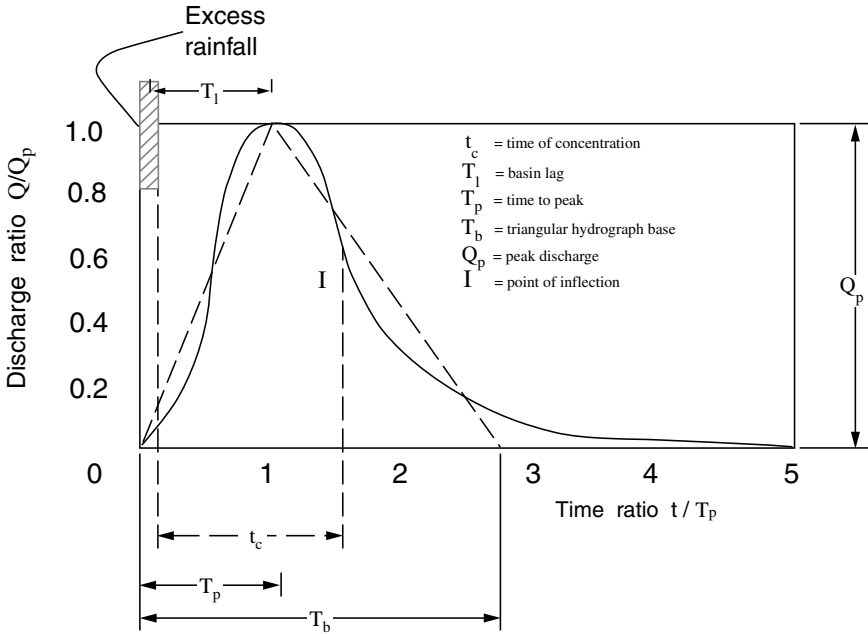

FIGURE E-3 Equivalent triangular unit hydrograph.
**Equivalent triangular unit hydrograph** A triangle, in the Soil Conservation Service (SCS) method, that is a straight-line approximation of the dimensionless unit hydrograph such that (a) its surface area is equal to the area under the SCS dimensionless unit hydrograph, (b) its base is on the time axis, and (c) its apex coincides with the maximum of this hydrograph. On the assumption that the triangular hydrograph is equivalent to the dimensionless unit hydrograph, the peak discharge  $Q_p$  is computed as a function of a coefficient  $C$  (varying from 300 in flat areas to 600 in steep terrain, with an average of 484), the drainage area  $A$ , and the time to peak  $T_p$ . See Figure E-3.